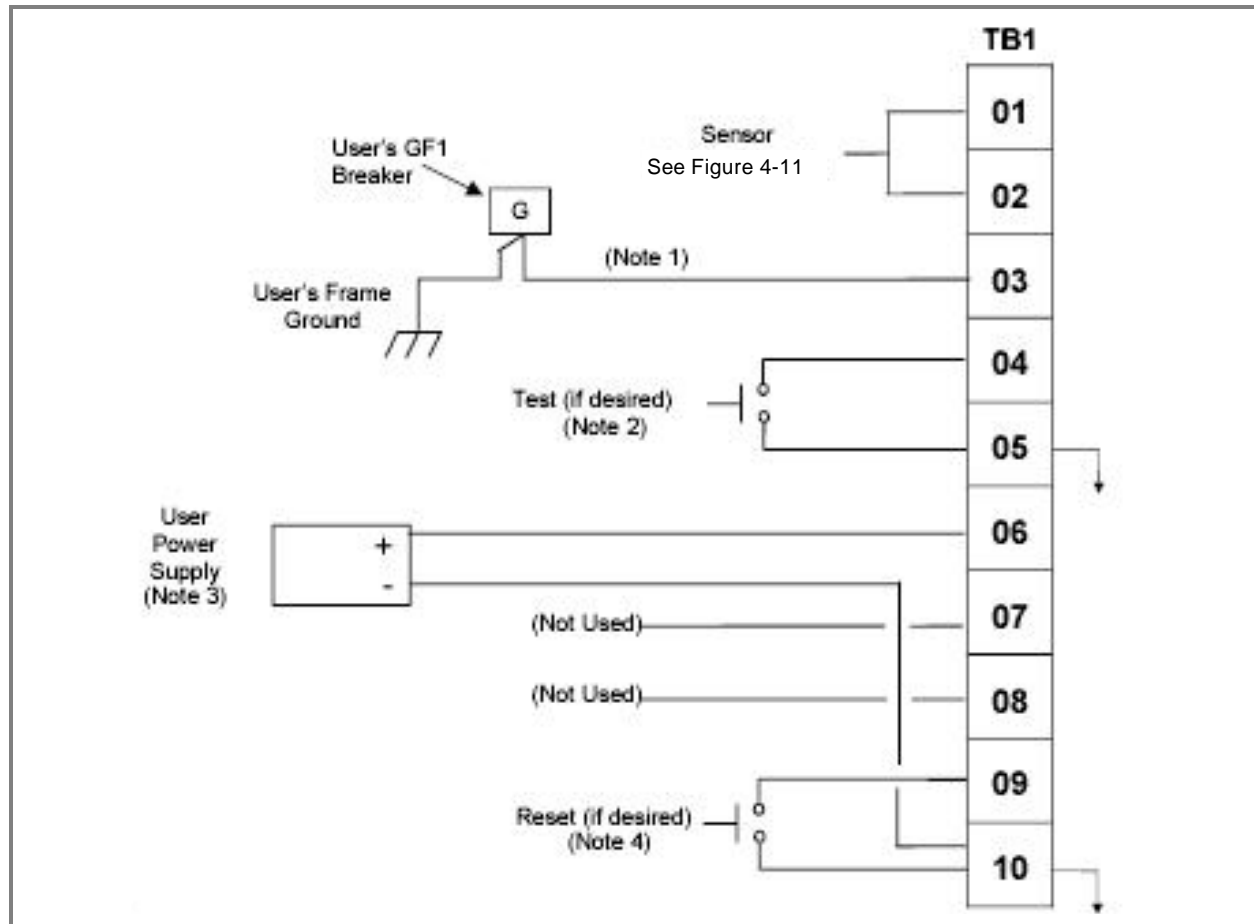
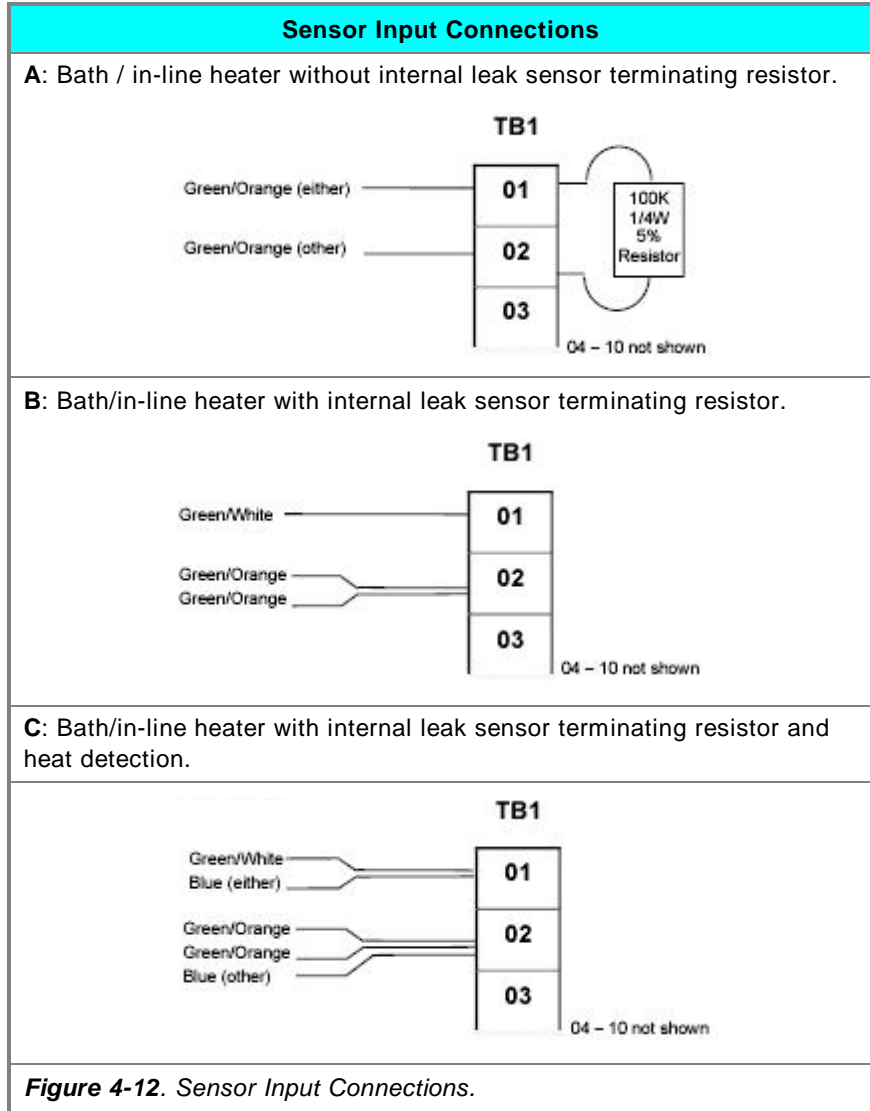
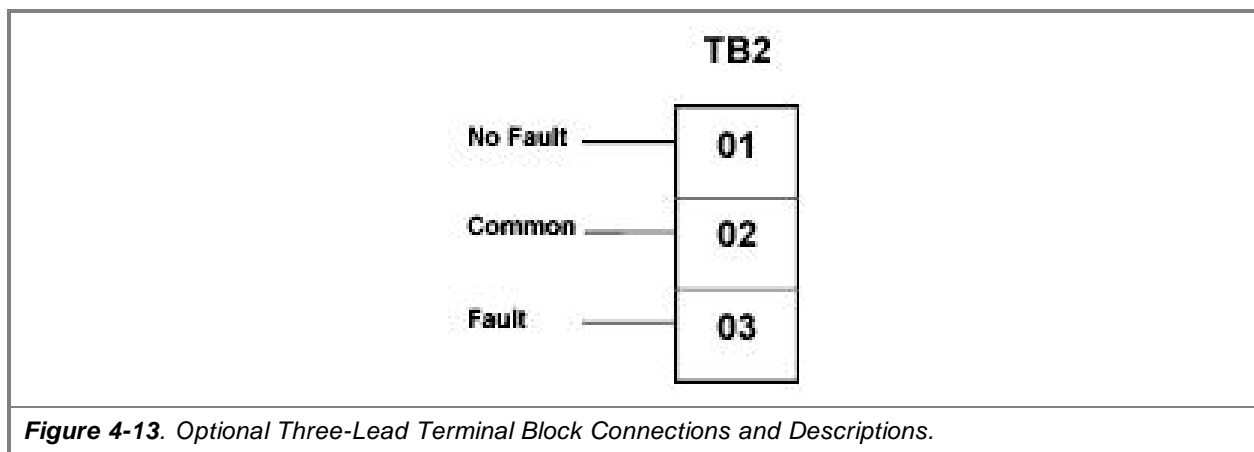

Figure 4-11. 10-Lead Terminal Block Connections and Descriptions.
Figure 4-12. Sensor Input Connections.
Figure 4-13. Optional Three-Lead Terminal Block Connections and Descriptions.
The Model LD-1 is provided with one ten-lead terminal block, Figure 4-11 and 4-12, and may have an optional three-lead terminal block, Figure 4-13, for relay output connections. The terminal blocks are connected as described in these figures. Figure 4-14 lists the controls and indicators on the front cover.
TB1-01	Active Sensor Input. (Also refer to Figure 4-12, Sensor Input Connections). This input must show a nominal impedance of 100K ohms with respect to TB1-02, or an open-sensor fault will be reported. An impedance of <20K ohms with respect to TB1-02 is interpreted as a chemistry leak, and an alarm is set.
TB1-02	Sensor Return (ground). (Also refer to Figure 4-12, Sensor Input Connections).
2. The LD-1 may be mounted in any position in an area not subject to chemical fumes. Mount LD-1 using the required two (2) #6 screws.
4. If using the ten-lead terminal block, make connections as shown in Figures 4-11 and 4-12. If using the optional three-lead terminal block, make connections as shown in Figures 4-12 and 4-13.
5. If using the IMTEC-provided power transformer, plug its output into the LD-1 PCB jack and plug the transformer into a 110V duplex outlet. If the end-user provides a power supply, see Figure 4-11 for the proper connections to power.